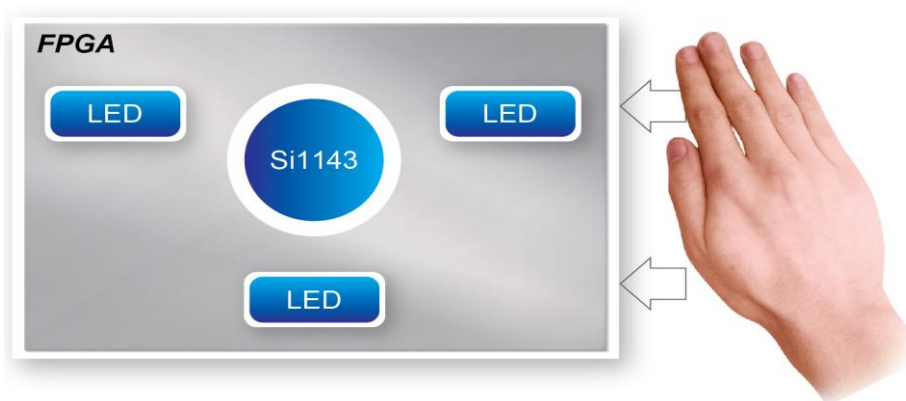

Figure 7-8 "Left Swipe" demonstration
- In Forced Conversion Mode terminal will display the PS1(proximity sensing) data, PS2 data and PS3 data as shown in **Figure 7-8**.
- After press KEY[0] to switch to Type 2, if the gesture detection is success the result will print on NIOS Terminal for corresponding swipe as shown in **Figure 7-8**, “Left” will be printed out.